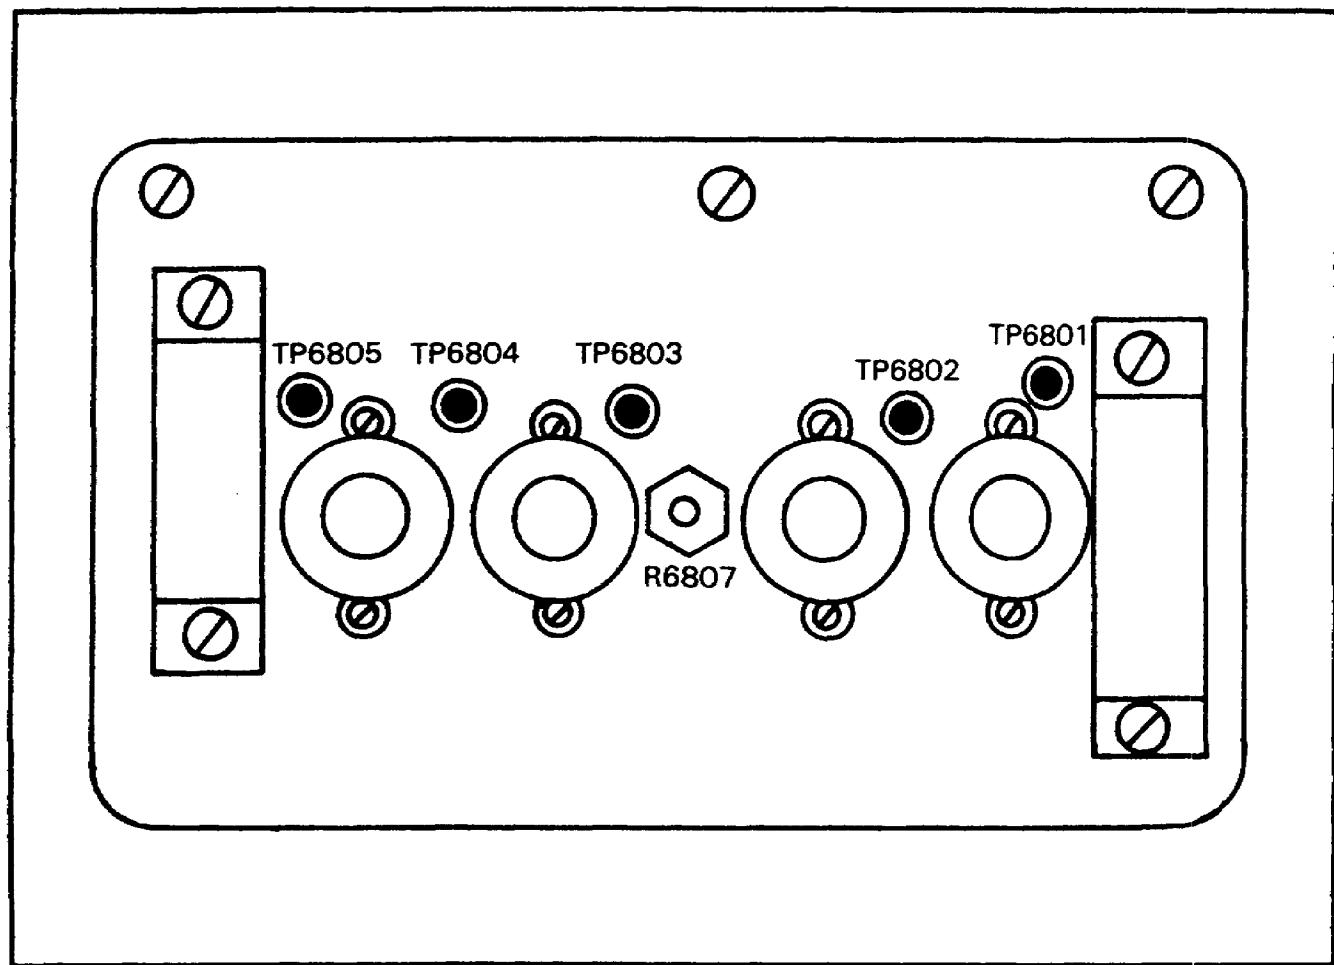

Figure 48. Oscillator, pulse delay, 0-1284/FPN (top view).
f. Locate TP-6802, B-trigger delay gate test point and R6807, B-trigger delay adjust pulse delay, 0-1284/FPN. (See Figure 48.)
- B-trigger delay gate test point TP-6802 (Figure 48)
- B-trigger delay gate adjust control R-6807 (Figure 48)